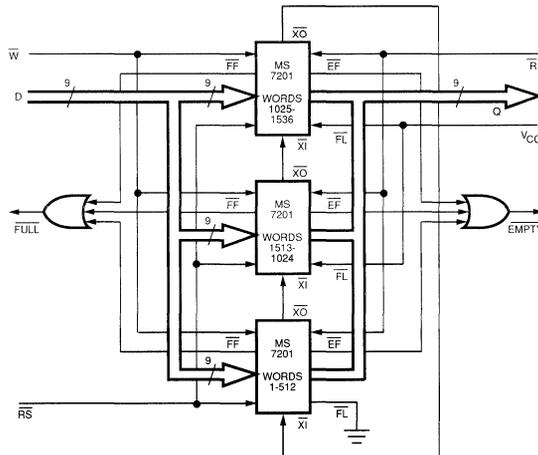

Figure 5. Diagram of a 1536 x 9 FIFO in Depth Expansion Mode
3. The EXPANSION OUT (\overline{XO}) pin of each device must be connected to the EXPANSION IN (XI) pin of the next device as shown in Figure 5.
4. External logic is required to generate a common FULL FLAG (FF) and EMPTY FLAG (EF) signal by ORing all of the FFs together and ORing all of the EFs together.
5. The RETRANSMIT (\overline{RT}) function and HALF FULL FLAG (HF) are not available in Daisy Chain Mode.